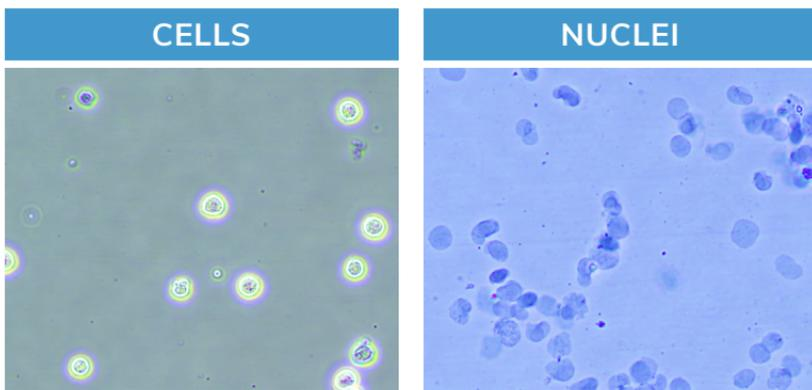

FIGURE 12
10. Load onto hemacytometer slide and examine under brightfield/phase microscope to determine whether nuclei have been efficiently isolated (Figure 12).